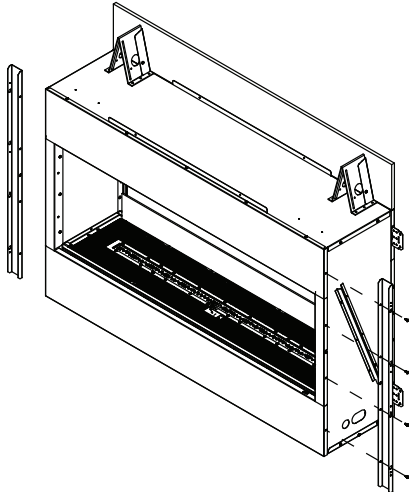

Figure 2
6. Install the outdoor kit installation brackets on the left and right side of the appliance. See Figure 2.